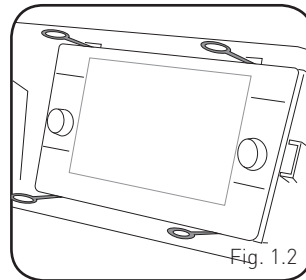

Fig. 1.2
3. Insert the four (4) supplied radio keys into the slots at the top and bottom of the factory radio with the tapered sides facing inward, pull outward to remove the radio from the dash. (Fig. 1.2)